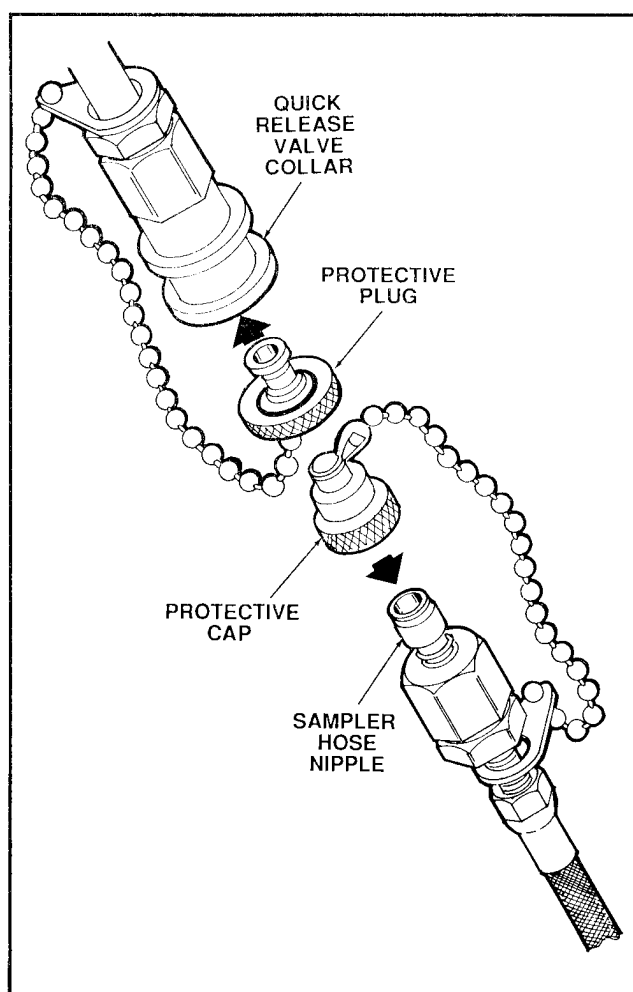

Figure 2.13 Replacing the Protective Cap and Plug
d. Retract the quick-release valve collar and remove the sampler nipple from the valve. Replace the protective cap and plug (Figure 2.13).
- d.** Retract the quick-release valve collar; remove the sampler nipple from the valve and replace the protective cap and plug (Figure 2.13).